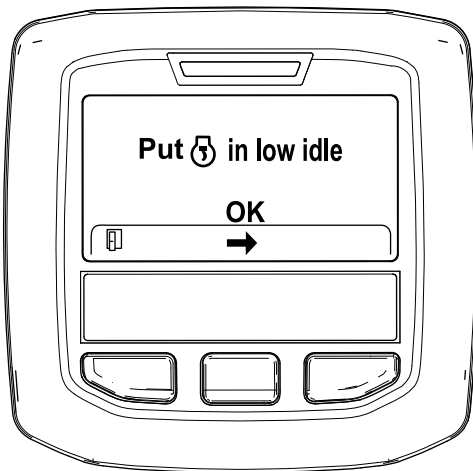

Figure 48
6. Move the throttle control to LOW IDLE and press the center button (Figure 48).